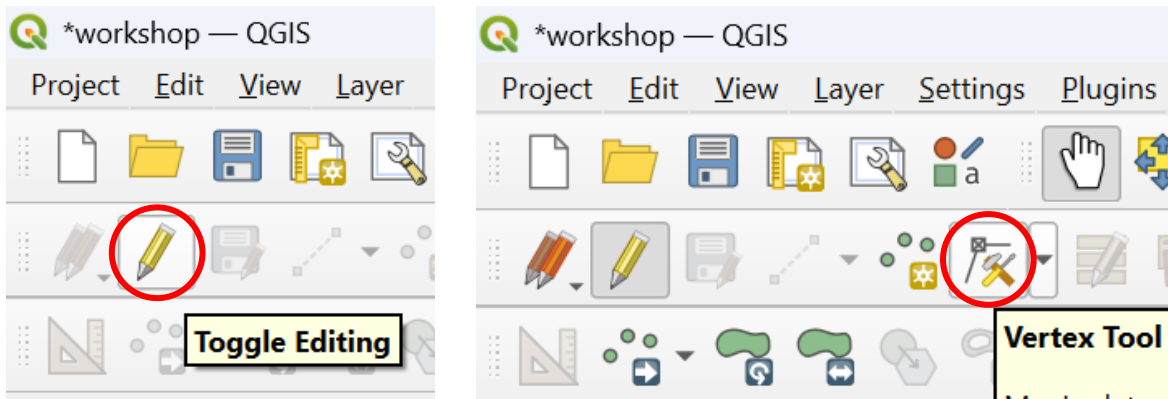

Figure 20. On the left, location of "Toggle Editing" button. On the right, location of the "Vertex Tool" button.
2. Click on the “Toggle editing mode” (Fig.20)
3. Click on “Vertex Tool” (Fig. 20)